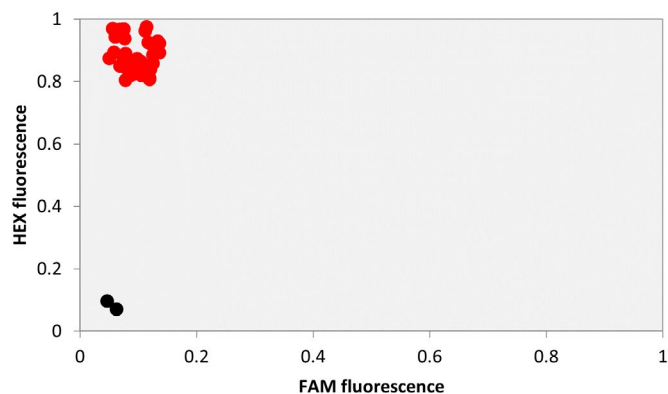

Figure 6. All data points cluster together in one position on the plot – in this case, samples are monomorphic for the allele detected by HEX.
**Plot characteristics:** monomorphic results on the genotyping plot (figure 6).